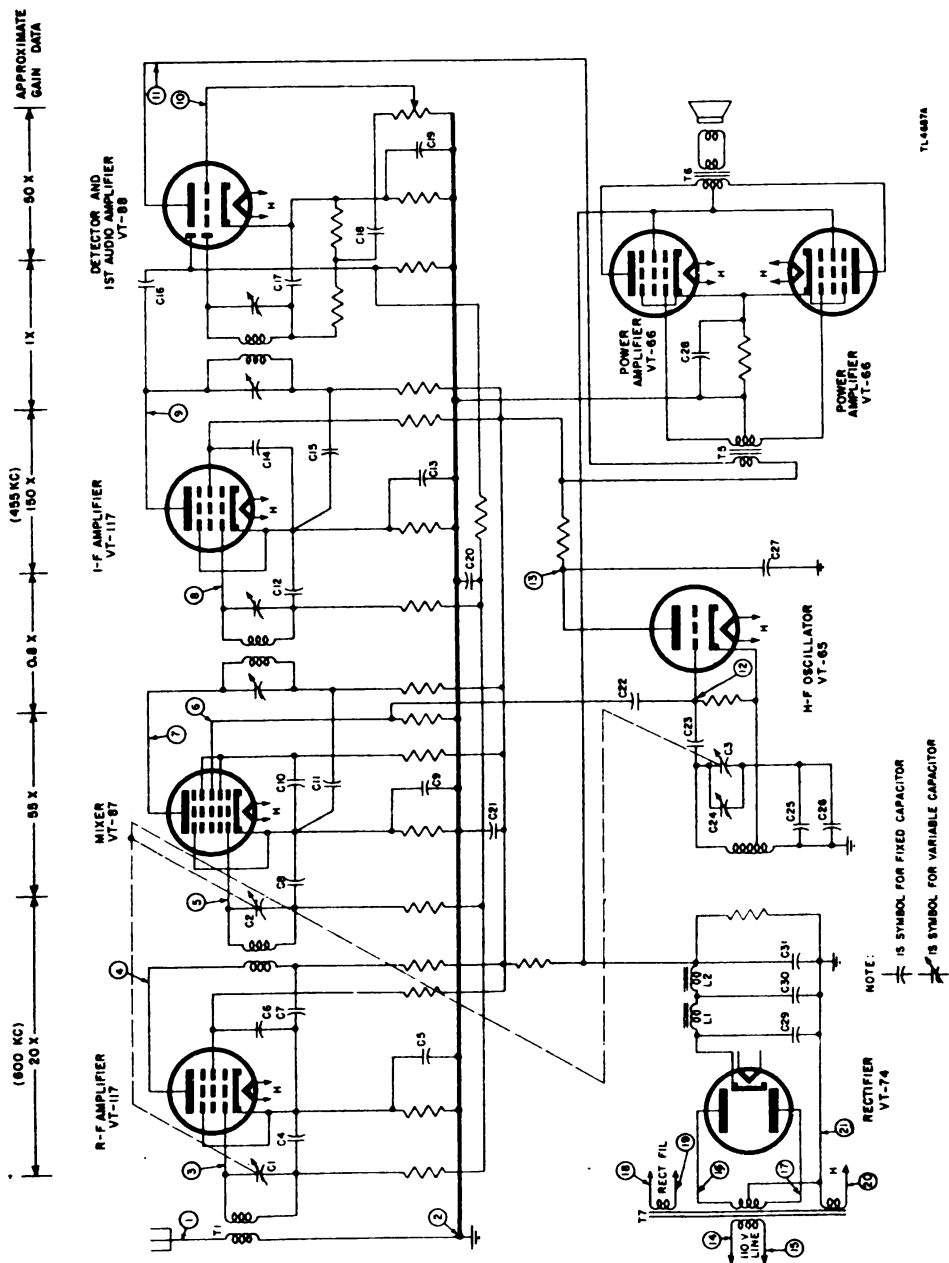

Figure 8. Typical receiver, schematic diagram.
Paragraphs 13 through 19 explain some of the applications of the vtvm. For this purpose, a basic radio receiver (fig. 8) has been selected arbitrarily to point out the major features in a sample performance.
a. Good Capacitor. When a capacitor by-passes r-f, a-f (audio-frequency), or l-f (low-frequency) a-c voltages, the alternating voltage across its terminals is approximately zero. For example, negligible a-c voltage readings would normally be obtained across capacitors C5, C6, C7, C8, C9, C10, C11, C12, etc. in figure 8.
a. When the output of a signal generator is connected to the input terminals of a receiver (test points 1 and 2 in fig. 8), a load is imposed on the signal generator output by the input circuit of the receiver. As a result of this loading, the output voltage of the signal generator is reduced. If the vtvm is also connected across the input terminals, there may be no readable deflection of the meter pointer (see NOTE).
b. If the vtvm is connected between the grid of the first r-f amplifier tube and the chassis (test points 3 and 2 in fig. 8), a deflection may occur when the signal generator and the first r-f grid circuit are tuned to the same frequency. Such a reading indicates that the input circuit is operating.
d. When only one stage of r-f amplification is used, compare voltage readings at the plate of the r-f amplifier tube and the grid of the mixer tube (test points 4 and 5 in fig. 8) to gauge the efficiency of transformer action.
(1) The signal generator is connected to the input terminals, and the vtvm is connected between the grid of Tube VT-87 and the chassis (fig. 8).
(2) Rotate the receiver tuning capacitor (C2 tunes the grid circuit of Tube VT-87) and note the reading on the meter.
(3) The voltage should increase sharply as the capacitor is rotated towards the frequency to which the signal generator is tuned.
(4) Conversely, set the receiver tuning control at any predetermined frequency, such as 1,000 kc; then tune the signal generator from some lower frequency to a higher frequency through 1,000 kc.
(5) The voltage reading should increase sharply as the signal generator tuning approaches 1,000 kc, reach a peak at 1,000 kc, and then decrease as the frequency of the signal generator is increased above 1,000 kc.
a. The oscillator output voltage is checked by measuring the a-c voltage between the grid of the oscillator tube and the chassis (test points 12 and 2 in fig. 8). As an alternative, the a-c voltage between the plate of the tube and the chassis (test points 13 and 2) may be measured if it is physically more convenient.
d. If the oscillator tube is a single-ended type in which the control grid connection is not made at the tube cap, measurement may be made, for convenience, between the stator plates of the oscillator capacitor (C3 in fig. 8) and the chassis.
e. In a few cases, it may be found that the tests given above for oscillator operation show a normal condition, although the receiver is dead. This may be caused by the fact that no oscillator voltage is being applied at the injector grid of the mixer tube (test point 6). If the blocking capacitor (C22 in fig. 8) is shorted or open, the receiver will not operate normally.
(1) If the capacitor is open, the normal oscillator output voltage will not reach the injector grid.
(2) Faulty operation of the mixer stage will occur if the capacitor is shorted, because a d-c potential is applied to the injector grid. In this case, a check of the a-c voltage at the injector grid may indicate a normal condition since the probe would not indicate the presence of the abnormal d-c voltage present. Therefore, it is necessary to change over and use the d-c section of the vtvm which ignores the presence of a-c voltage and measures only d-c potentials.
b. The a-c voltage measured between the plate of the mixer tube and the chassis (test points 7 and 2 in fig. 8) is a resultant of the following:
- (1) The signal voltage applied to the mixer control grid.
- (2) The oscillator output voltage applied to the injector grid.
- (3) A voltage existing at a frequency equal to the sum of the signal and oscillator frequencies.
- (4) A voltage existing at a frequency equal to the difference between the signal and oscillator frequencies. When the i-f amplifier input transformer is producing normal transformer action, this difference frequency voltage is the only one reaching the grid of the i-f amplifier Tube VT-117.
c. Since the vtvm measures voltages at all frequencies without discrimination, the measurement at the plate of the mixer tube will show the total voltage appearing at this point as a resultant of all voltages given in subparagraph b above. On the other hand, a measurement made between test points 8 and 2 in figure 8 will indicate only the i-f voltage at the grid.
- (1) From a modulated signal generator whose output is fed to the antenna and ground terminals of the receiver. In this case, the signal is amplified by the r-f and i-f stages, demodulated by the detector, and the audio component measured at the a-f section by the vtvm.
(2) From an audio oscillator or other a-f signal source, directly to the control grid of the first a-f amplifier tube. This method is advantageous since any possible trouble in the r-f and i-f sections will not influence the tests, and most audio oscillators are capable of supplying any a-f voltage from approximately 100 to 10,000 cps (cycles per second). This permits voltage measurements to be made at various audio frequencies and, in this way, the frequency response characteristics of the a-f amplifier may be determined.
b. The audio input signal voltage may be measured between the grid of the first a-f amplifier tube and the chassis (test points 10 and 2 in fig. 8). Another measurement may be made between the plate of this tube and the chassis (test points 11 and 2) to determine the gain of the tube. This gain is, of course, the voltage and not the power gain of the amplifier. The power amplifier may be checked in the same manner.
b. Transformer voltages up to 250 volts may be checked with the a-c section of the vtvm. For example, in figure 8 the 110-volt line voltage across the primary of transformer T7 may be checked by connecting the vtvm to points 14 and 15. The high-voltage secondary may be checked by connecting a high-voltage a-c voltmeter between points 16 and 17, the low-voltage rectifier secondary by connecting the vtvm between points 18 and 19, and the low-voltage heater secondary across points 20 and 21.